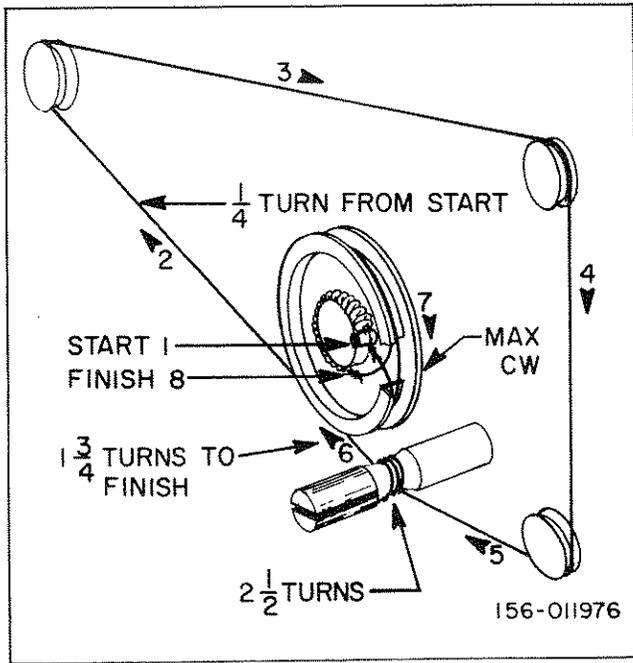

Figure 2. Dial Cord Restraining Diagram.
1. Position TUNING drum as shown in figure 2.
2. Tie one end of dial cord to plastic stud at numbered step 1 (figure 2).
3. Proceed to restring in ascending numerical sequence as shown in figure 2. Finish restringing with numbered step 8 and attach free end of string to plastic stud on TUNING drum. Sufficient tension should exist on spring to prevent cord slippage.